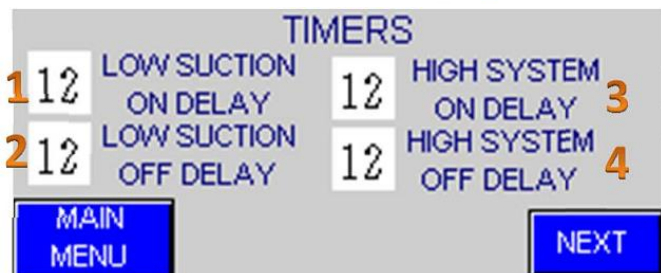

Figure 19. Timer Adjustments Screen
3. **Timers Menu.** Displays the various adjustable timer adjustments, Figures 19 and 20.